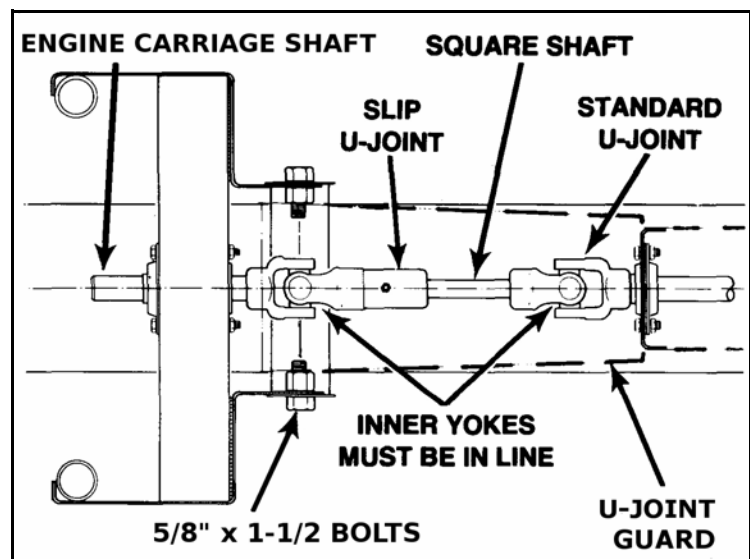

Figure 3.16
3. Fasten short (standard) u-joint with square shaft to the auger driveshaft. Tighten the set screws securely (Figure 3.16).
4. Place longer (slip) u-joint onto the square shaft with the inner yokes in line (Figure 3.16). This prevents vibration and excessive wear.
6. Snap u-joint guard over 5/8" bolt ends (Figure 3.16).
12. After cleaning the inside pulley hub surface and the engine carriage shaft of dirt, secure the 13" drive pulley to engine carriage shaft with a 1/4" x 1-1/2" square key (see Figure 3.16). Position pulley hub away from engine carriage. Tighten the set screws.